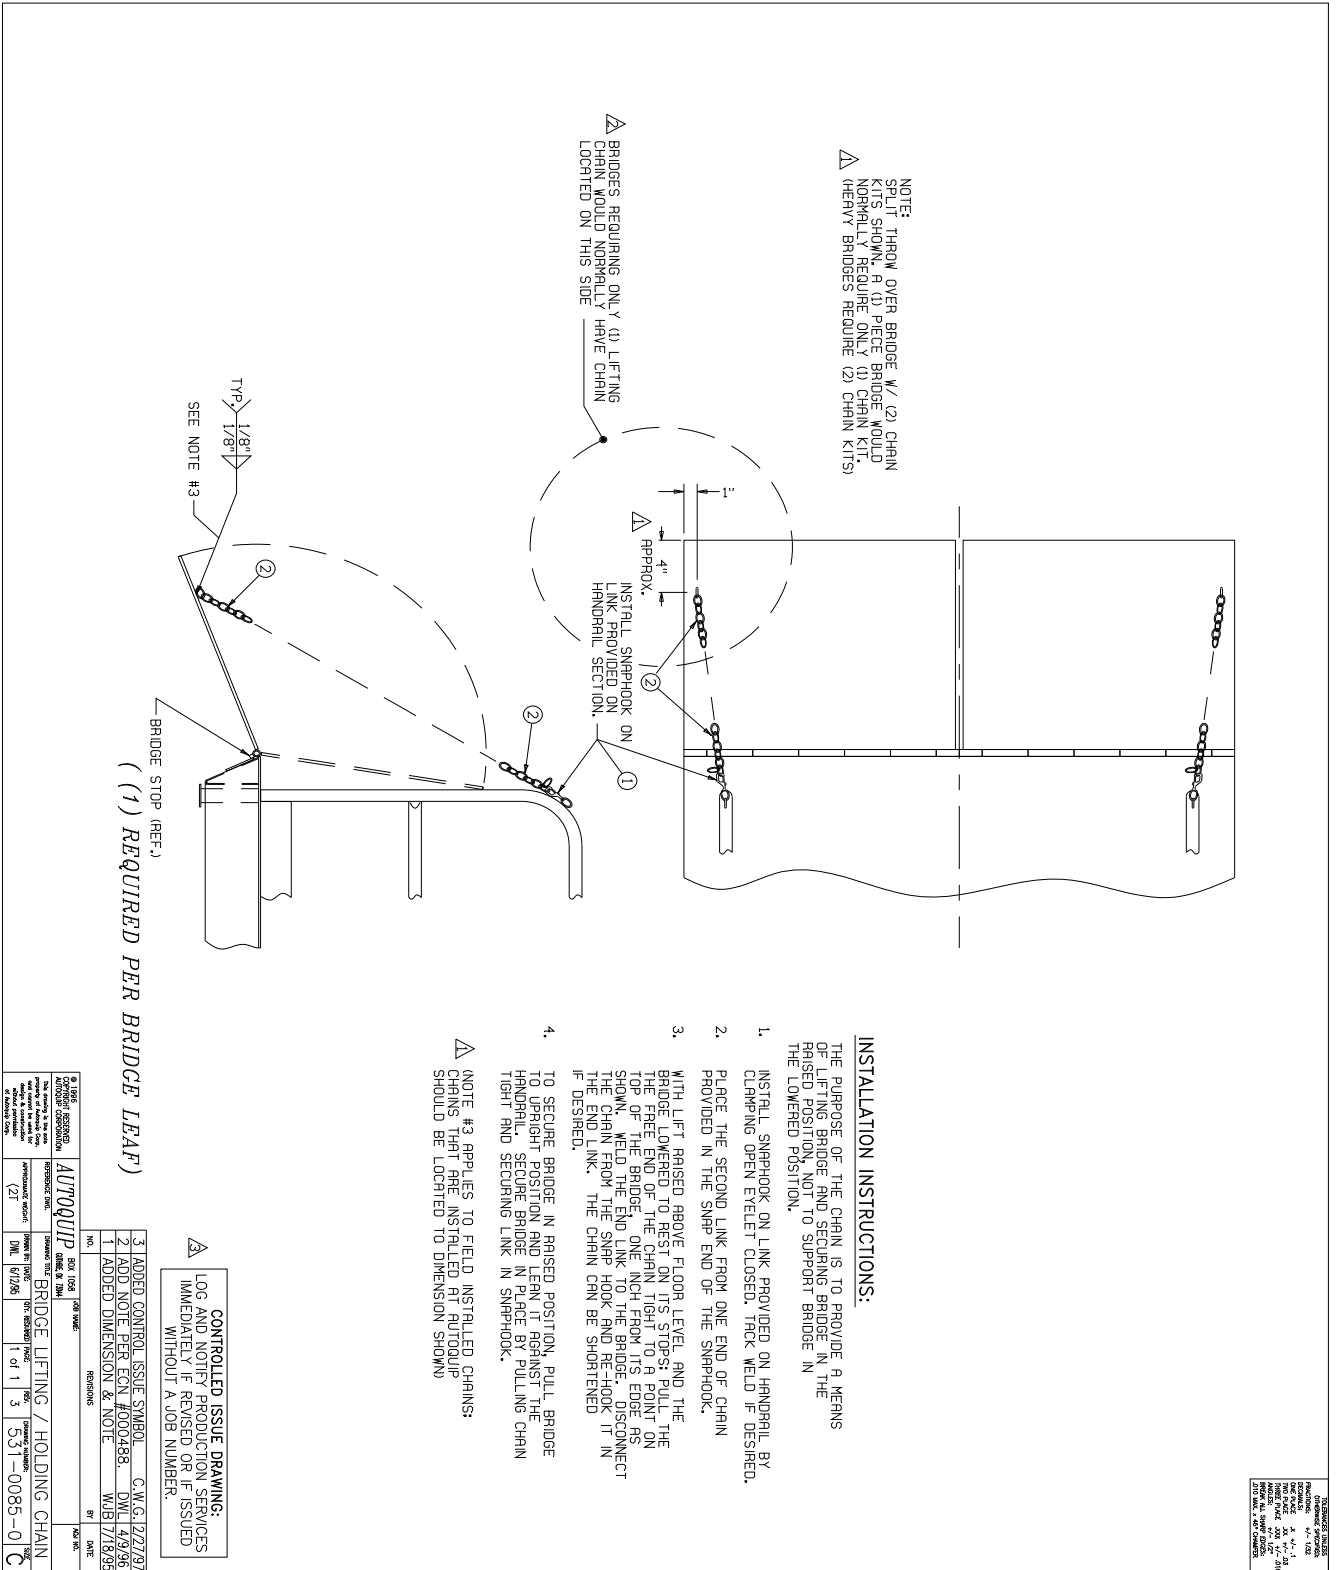

Figure 8 Bridge Installation, Steel
1. The platform top should be solid and flush with the pit curb angles. The pit depth includes $\frac{1}{2}$ " added to the lowered height of the lift for leveling purposes (see Figure 8).